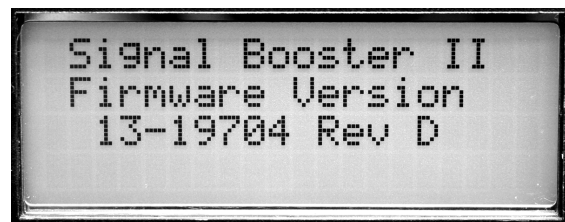

Figure 5: Software version is displayed briefly during the boot-up sequence.
- 3) The LCD display shows the firmware revision screen for about 5 seconds (see **Figure 5**).